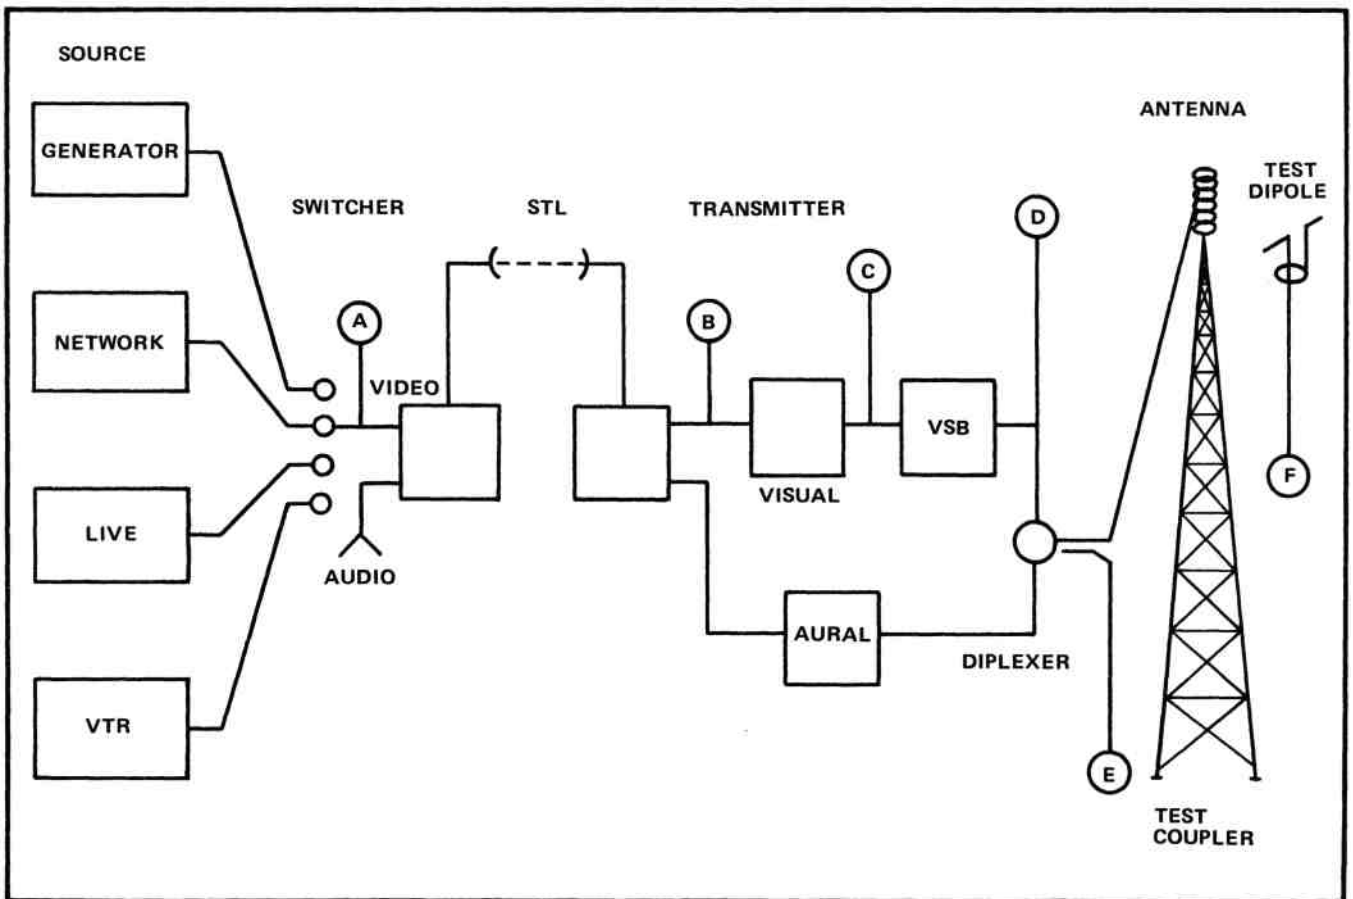

Fig. 2-3. Typical station layout showing test points.
Many possibilities exist for performing sideband analysis. For transmitter tuning, refer to Fig. 2-3, set up the 1405 (see procedure below), and connect it directly to the transmitter input (B). Connect the input of the spectrum analyzer to the output of the vestigial sideband filter (D). Other intermediate points can also be observed, such as the transmitter IF, the transmitter output before the vestigial sideband filter (C), after the diplexer (E), or off-the-air using a dipole (F).